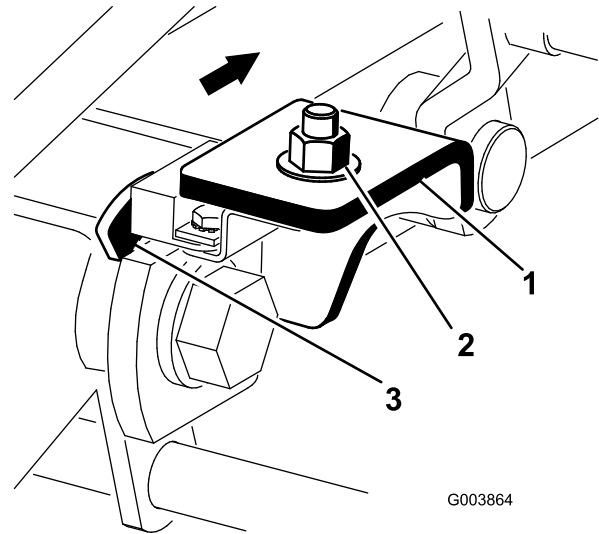

Figure 14
2. Loosen the carriage bolt nut securing the lift arm switch bracket to the No. 4 lift arm (left front) (Figure 14).